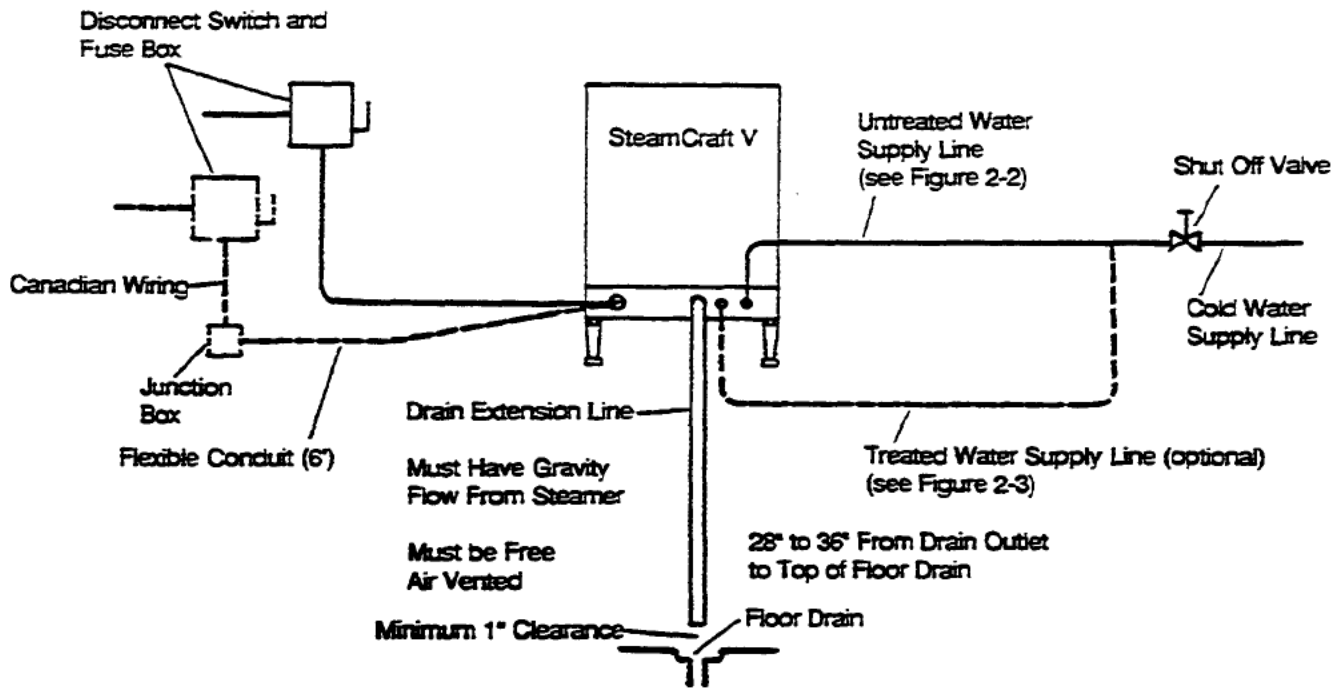

Figure 2-1. Schematic Installation Diagram
Schematic Installation Diagram, figure 2-1, illustrates the various electrical, water, and drain lines that must be connected to the SteamCraft V. These lines can be constructed and connected to the SteamCraft V easily and without delay if the various construction and installation tasks are performed a planned sequence. Table 2-1 summarizes these tasks and lists them in a recommended sequence. The Installation Checklist outlines the overall installation process; the instructions referenced in the table provide details Installation requirements may vary from site to site; adapt the checklist accordingly.
1. Always connect a COLD water supply to the condenser/steam generator connection (item 4, figure 2-1). If hot or warm water is supplied to this connection, the steam condenser in the SteamCraft V will not work.
- The water supply to the condenser/steam generator connection (item 4, figure 2-1) can be untreated.
- The treated water supply is connected to the steam generator only connection (item 5, figure 2-1).